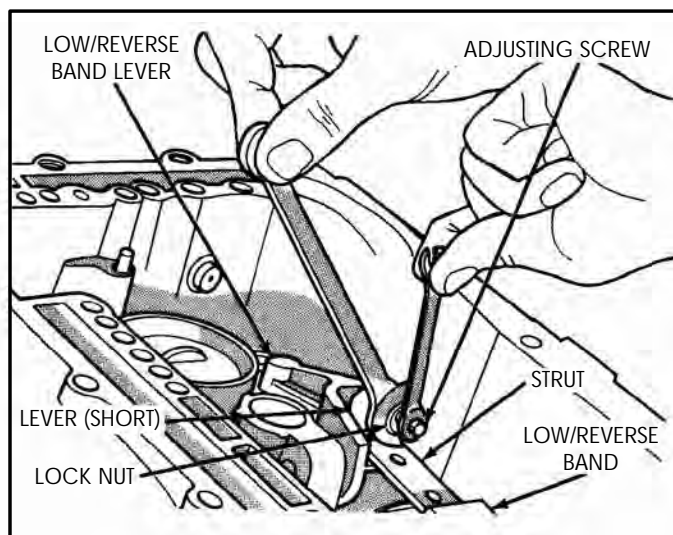

Figure 58
37. Loosen the rear band lock nut and the adjusting screw, as shown in Figure 58.